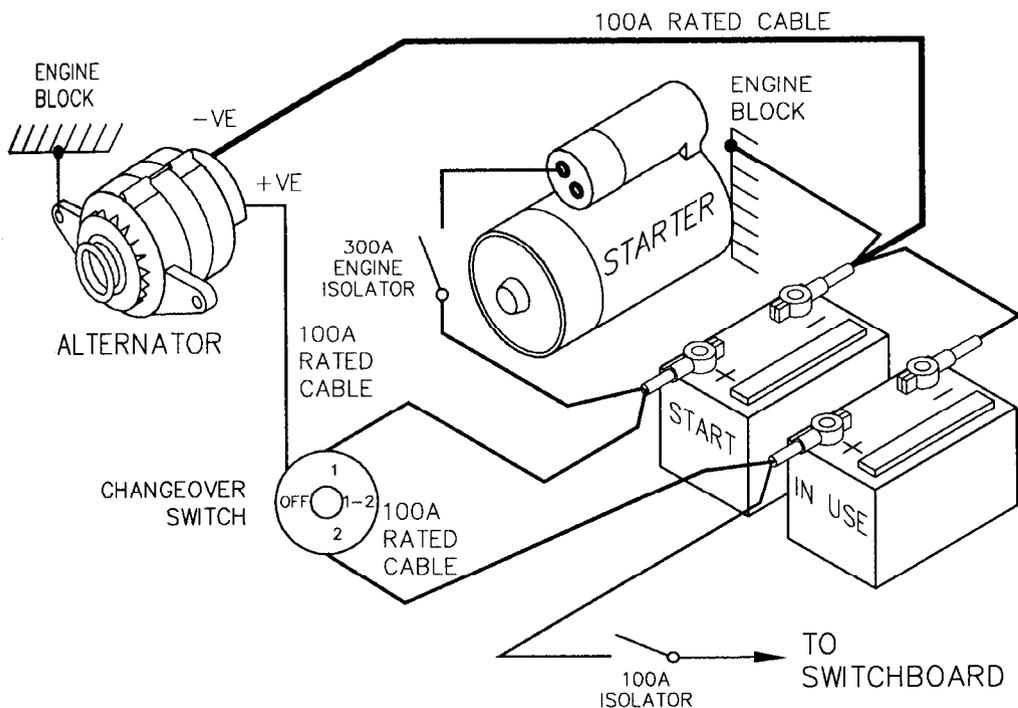

Figure 3-11. Changeover Switch Charging System.
a. TWC Cycle Phases. The main cycle phases are illustrated in Figure 3-11 and are as follows:
- (1) **Phase A.** Charging at a low charge level of 13.8 V.
- (2) **Phase B.** Charge ceases, battery voltage measured under load.
- (3) **Phase C.** Charging at a high charge level of 14.6 V for 12 minute period if voltage is below a preset level.
- (4) **Phase D.** Charging decreases to 13.8 V for a two minute period, prior to next measurement phase.
- (5) **Phase E.** Charge ceases, battery voltage measured under load. If required the cycle continues for a further 12 minutes on high charge. If measured voltage exceeds preset level, the TWC goes into a compensating charge mode.
- (6) **Phase F.** Extended charging period, when alternator output is reduced. Time metering ceases and charging period extends until normal conditions resume.
- (7) **Phase G.** Rest period, automatically interrupts charging after eight 12-minute cycles are completed, or if preset level is exceeded. A compensating charge period then begins.
- (8) **Phase H.** Compensating charge period extension after heavy discharge prior to resuming Phase A. Gassing is eliminated by one hour low charge level.
- (9) **Phase I.** After the one hour rest period, battery status is measured and if required a new cycle period starts.